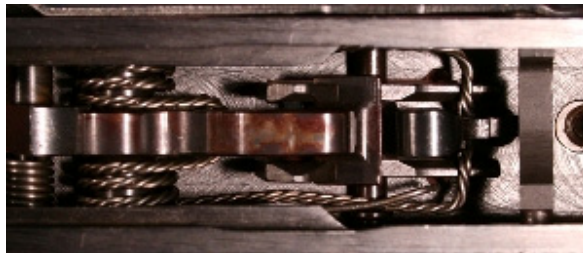

Figure 44. The Hammer in the Cocked Position.
- m. Push the hammer down until it locks in the cocked position. Refer to Figure 44.